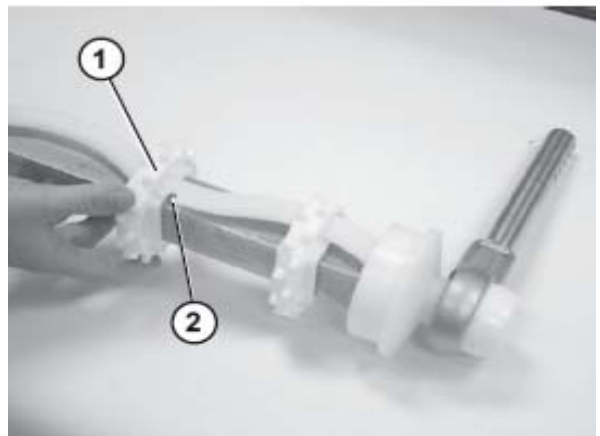

Figure 82
4. Install the remaining sprockets (**Figure 82, item 1**) making sure to position each sprocket with the next available notch (**Figure 82, item 2**) in the sprocket alignment bar.